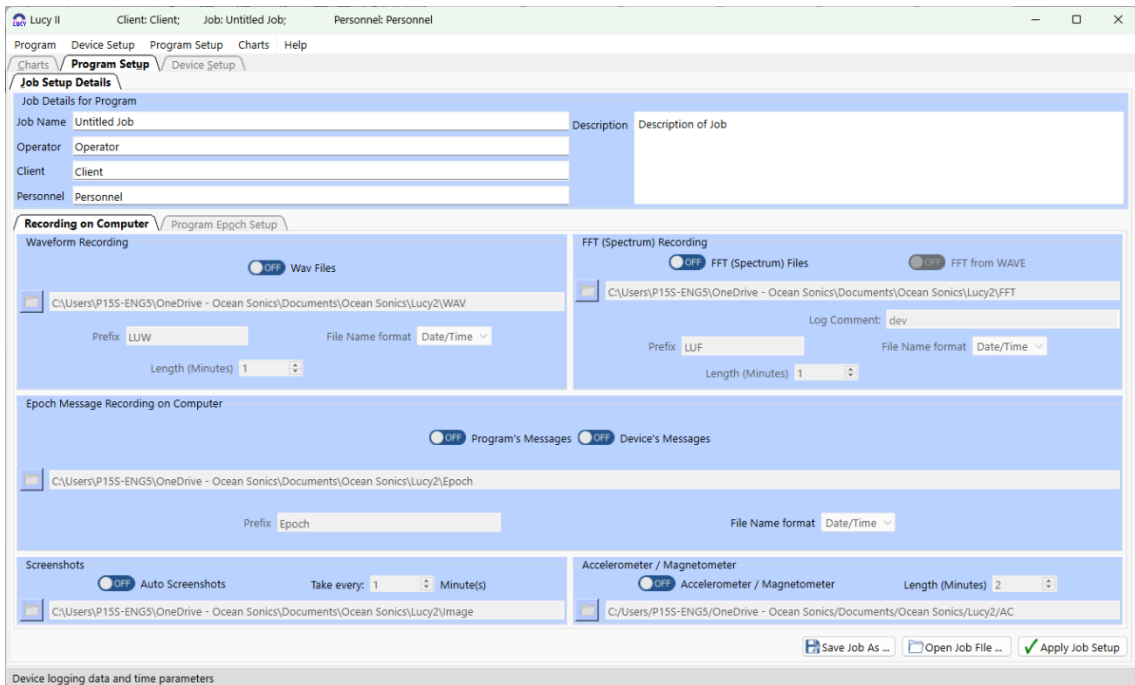

Figure 1-6 Lucy Setup – Job Setup Details
10. Add the Job Setup Details: **Job Name, Operator, Client, Personnel, Description** (Figure 1-6).
13. Click on the button **“Apply Job Setup”** (Figure 1-6).